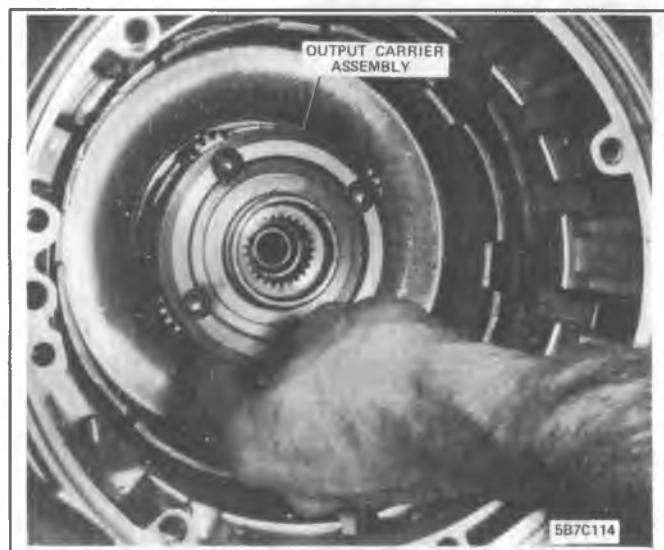

Figure 350C-124 Install Output Carrier
2. Install input ring gear to output carrier needle thrust bearing lip side face down. See Figure 350C-125.